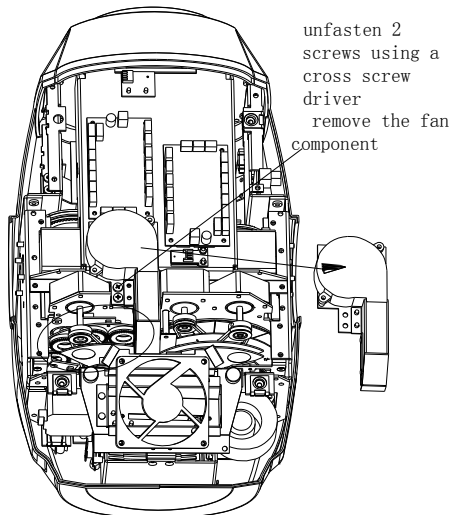

Figure 1
1. As shown in figure1, disconnect a projector from power. Unfasten the 4 fastfit screws of the cover to remove the cover, and unfasten the 2 screws of the fan assembly and remove the assembly.